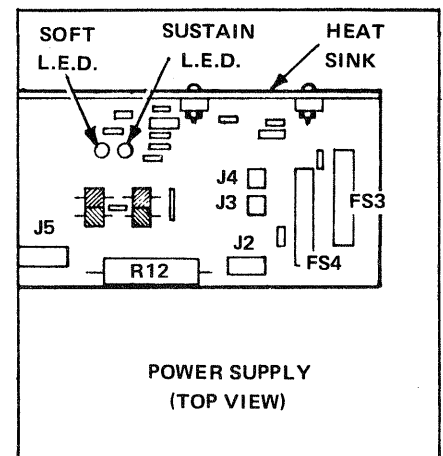

FIGURE 9-46 SOFT L.E.D. location.
- C. Plug the Power Cord into the Circuit Interrupter, plug the Interrupter into the wall socket; turn the Interlock and ① POWER Switches ON.
- D. Play PROGRAM 11. If the SOFT L.E.D. on the Power Supply (See FIGURE 9-46) does NOT light or otherwise does not function properly, REFER TO SECTION 10, TROUBLE ANALYSIS for system repair procedures.